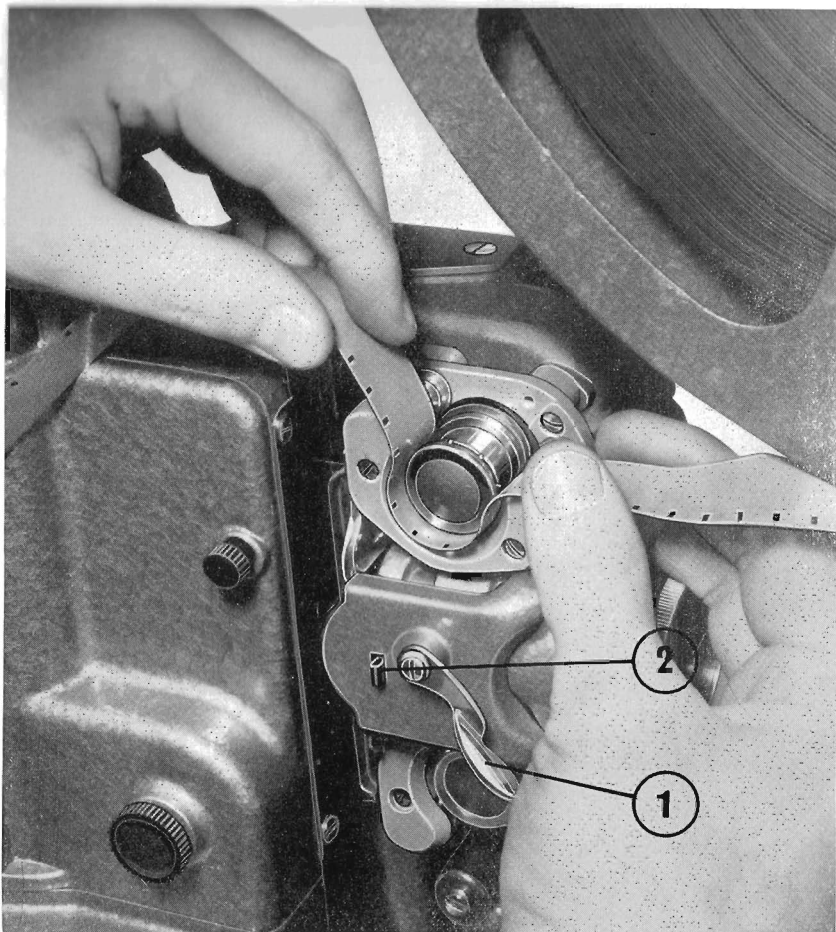

Fig. 4
4 Push forward the retractor lever (1 - Fig. 4).
- 5 Form a loop in the unwound film close to the reel and slip the film edge-ways on to the 'Feed Sprocket' (see Fig. 4). Pull up on the loose end to ensure that the sprocket holes engage with the sprocket teeth.
- 12 Make sure that the film lies in the recessed portion of the film gate, then push back the retractor lever (1 · Fig. 4) thereby closing the film gate and the sprocket shoes.
- A Before each show the aperture should be cleaned as follows. Press forward the retractor lever (1 · Fig. 4), release catch (2 · Fig. 4) and swing the gate outwards. Clean the pressure shoe and gate aperture using either the cleaning brush or a soft cloth.